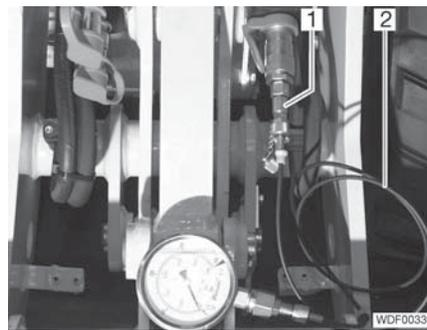

Fig. 10 Test pressure gauge (up to 400 bar)
- Measuring line (Fig. 10,2)
- Adapter (Fig. 10,1)